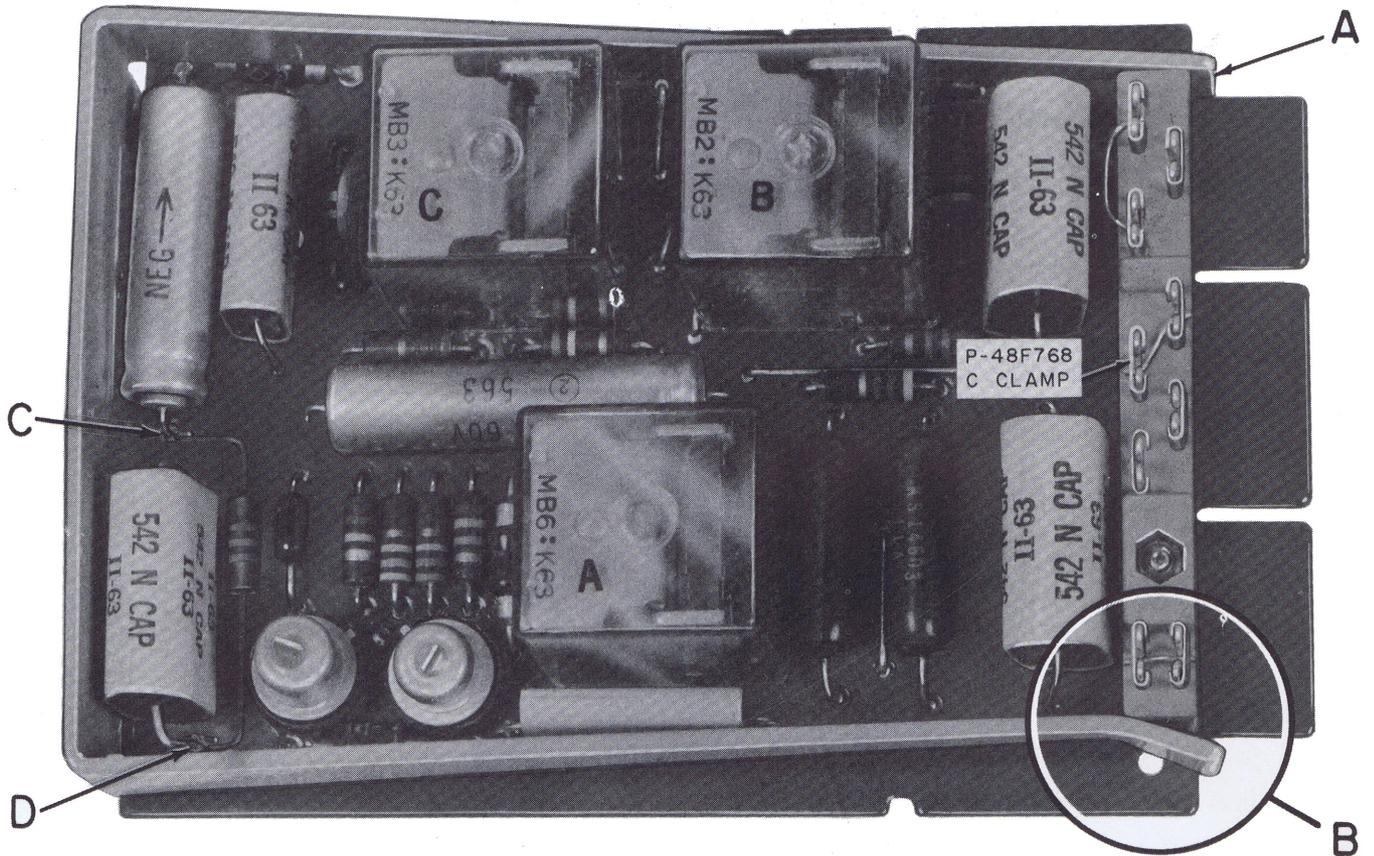
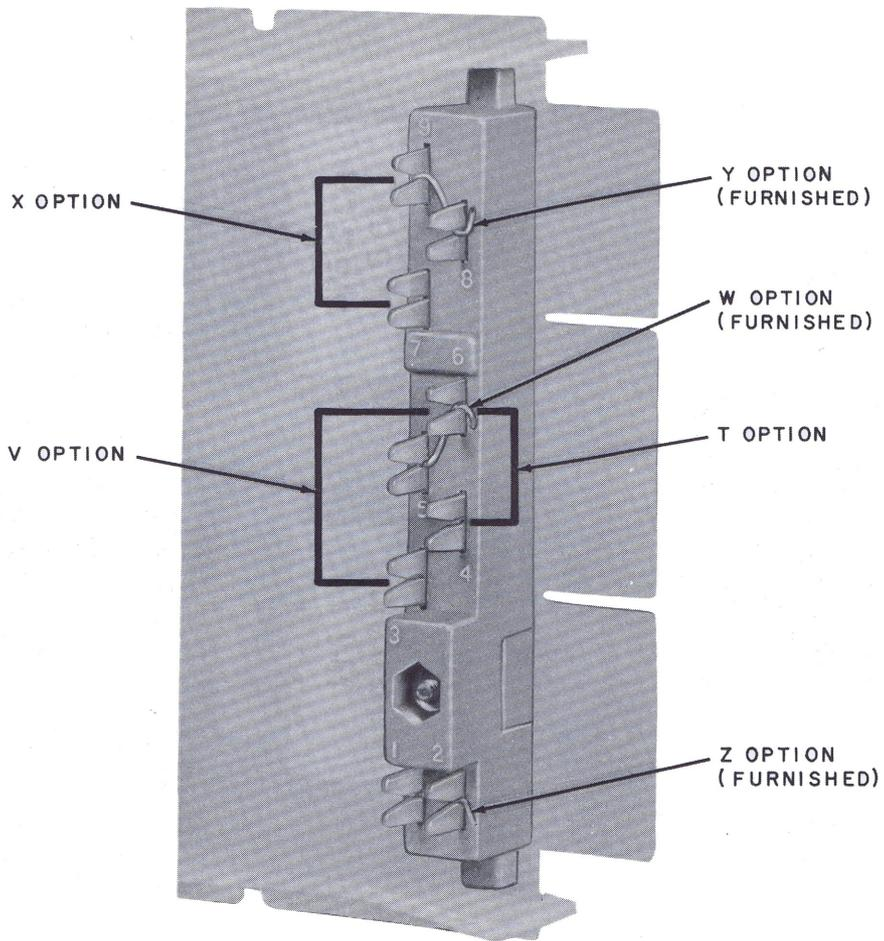

Fig. 4 — Modification of 400B or C KTU
Fig. 5 — Option Block, 400A, B, and C KTUs
3.02 On early production models of 400B and C KTUs, the wire clips on the option blocks require that small (P-48F768) C-clamps be slipped over the clips to assure option strap retention and good circuit continuity (Fig. 4).
3.03 Later production models of the 400B and C and all 400D KTUs are equipped with flat stamped option block terminals that do not require use of C-clamps (Fig. 5 and 6).
**3.08** To modify the 400B and C KTUs, connect a 1/2-watt, 100,000-ohm resistor electrically in parallel with the C5 capacitor. Physically, place, connect, and solder the resistor between points C and D as shown in Fig. 4.
**5.02** Line circuit failure can occur as a result of improper seating of the 400B or C KTU in its receptacle. On early production models of these units, the ends of the U-shaped handle may strike the receptacle and prevent the unit from being fully seated (point A on Fig. 4). Should this condition exist, bend the outer ends of the handle sufficiently to permit passage over the ends of the receptacle (point B on Fig. 4). After bending, the arms of the handle should be sufficiently pretensioned (squeezed together at the base of the U) to rest snugly against the ends of the option block. Later models have the option block insert extended at each end sufficiently to hold unbent U-handle arms in order to allow proper insertion in a mounting receptacle. Handles should not be flared on these KTUs (see Fig. 5).